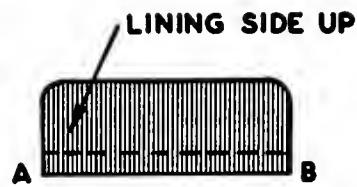

Fig. 149. Stitching the raw edge of the flap.
- A. Stitch above the raw edge of the flap from A to B (Fig. 149).